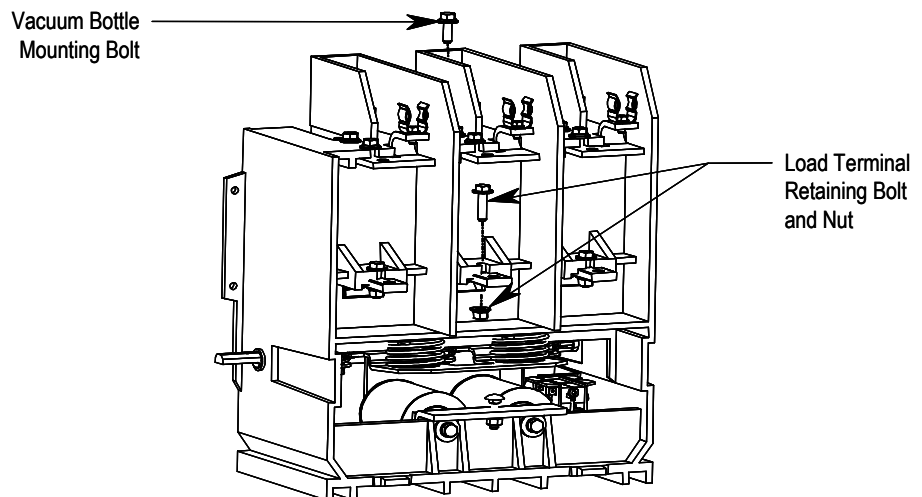

Figure 4.4 – Mounting and Retaining Bolt Removal
3. Remove the load terminal retaining bolt at the rear of the contactor, and the vacuum bottle mounting bolt at the top of the contactor (Figure 4.4).
To facilitate the set-up procedure, the contactor is held closed mechanically by means of a clamping fixture as shown in Figure 4.4. It is important that the contactor is held closed tightly with the armature plate against the magnet cores when gauging the over-travel and auxiliary positioning.